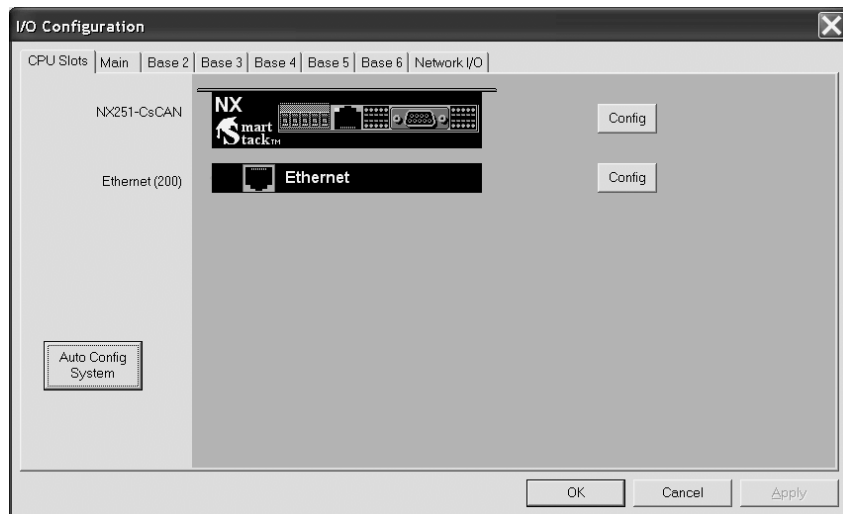

Figure 5.3 – Main Base Screen appears with Ethernet
3. Figure 5.3 appears. In this configuration example, I/O modules are going to be selected and configured for Base 2.